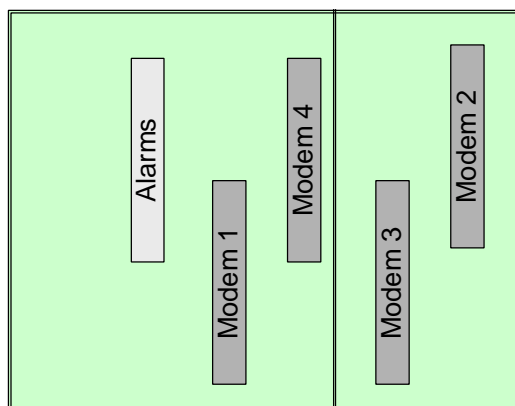

Figure 18. Combiner Shelf Ribbon Connections
3. Insert the connector into the Baseband socket on the Modem Interface shelf (see Figure 18) and into the appropriate socket on the Combiner Shelf backplane (the sockets are located behind the switches).